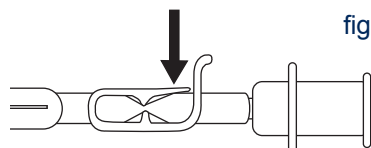

fig.20
9. Engage the clamp at the inlet of the bag. (fig. 20)